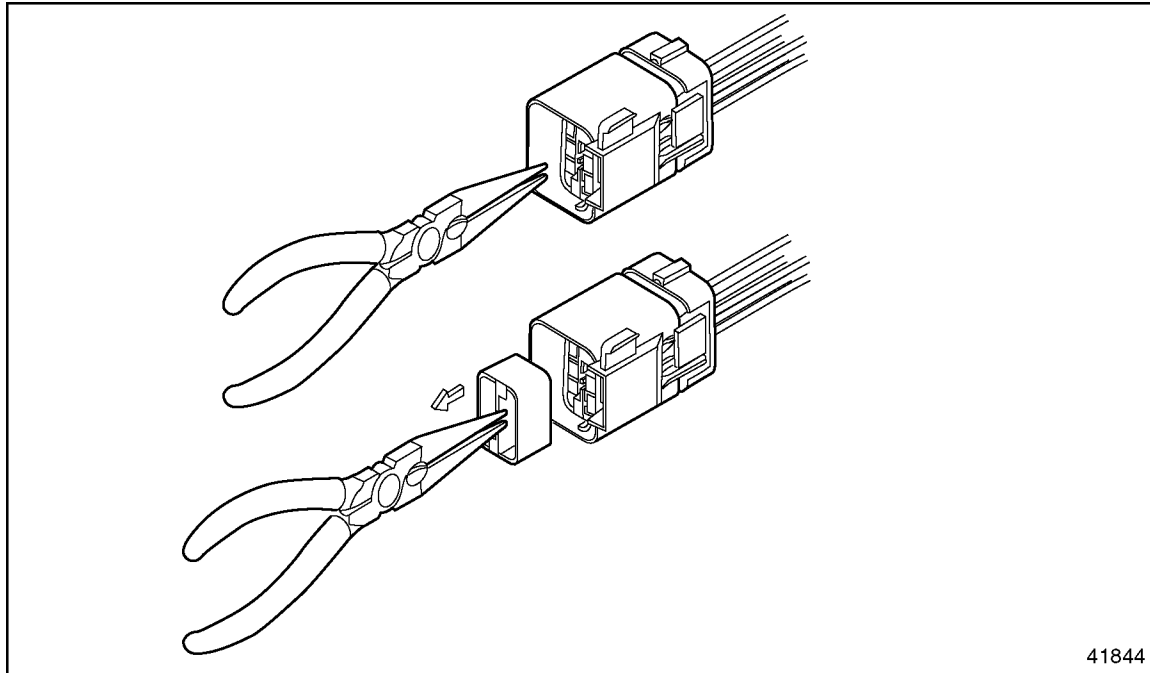

Figure 3-44 Removing the Terminal
1. Using pliers pull out the blue Terminal Position Assurance (TPA) that is located inside the connector (see Figure 3-44).
- Pull the cable back through the connector (see Figure 3-44).